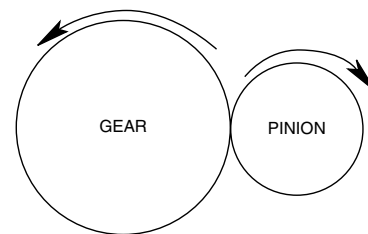

Figure 2.8A, Even Number Gears
- In a spur drive having two gears, the pinion and gear will rotate in opposite directions. (See Figure 2.8A)